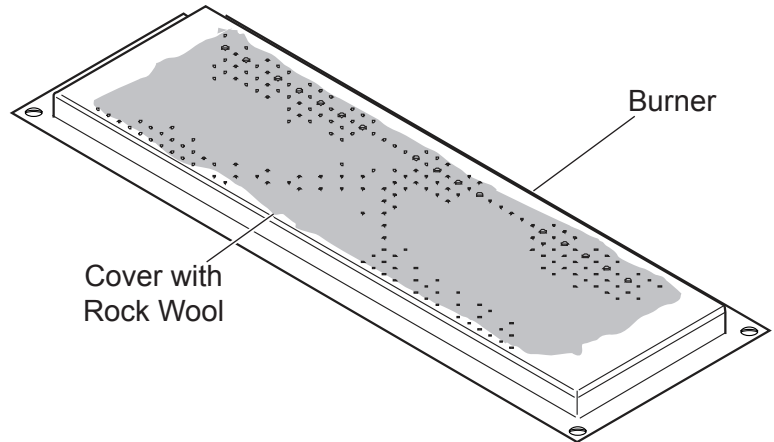

Figure 21 - Placement of Rock Wool on Burner
2. Distribute one layer of rock wool to cover the entire burner. *See Figure 21.*